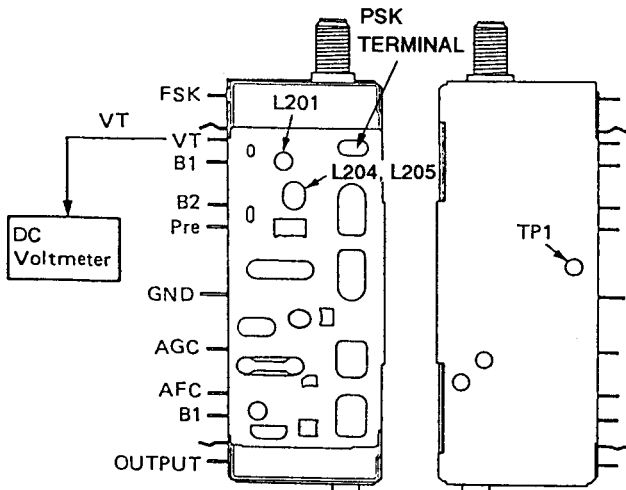

Fig. 2
1. Confirm that the voltage is approximately between 1.5V DC (CH.2) to 25V (CH.86) at the Vt terminal of the converter. (Fig. 2)
1. Confirm that the mixing voltage level is 1V DC (CH.86) to 3V (CH.2) at TP1. (Fig. 2)